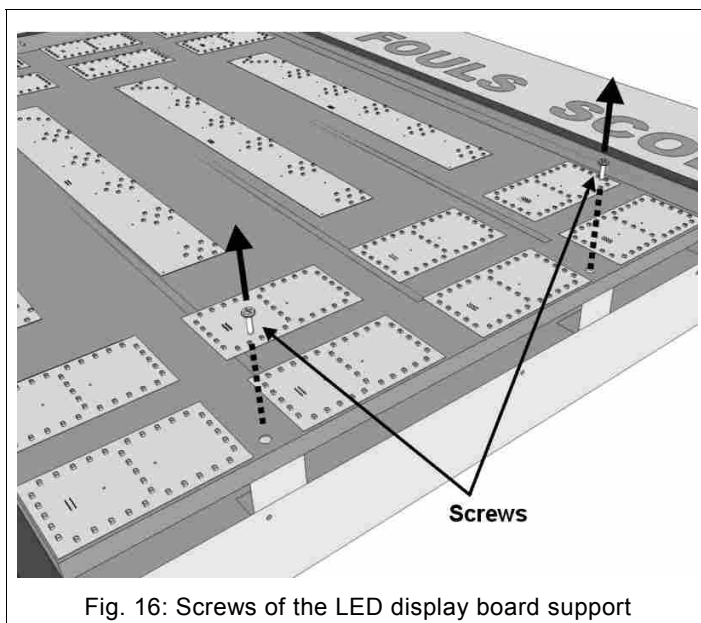

Fig. 16: Screws of the LED display board support
4. With a Phillips screwdriver remove the two screws from the right side of the metal support of the LED display boards (Fig. 16).